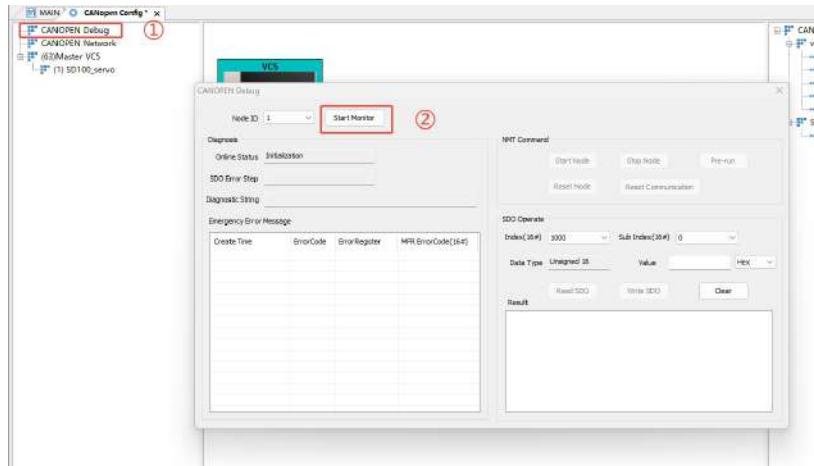

Figure 3-20 CANopen Debug Monitoring
Step 1: In the CANopen configuration interface, click CANopen Debug to open the CANopen Debug window and start monitoring, as shown in Figure 3-20.